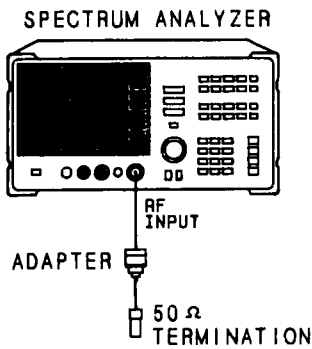

Figure 3-3. Displayed Average Noise Test Setup
- 4 Connect the HP 909D 50Ω termination to the HP 8562A/B RF INPUT 50Ω as shown in Figure 3-3.